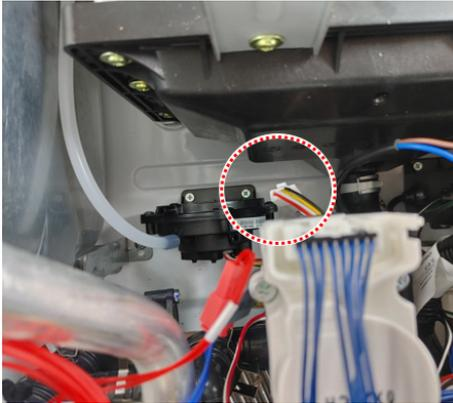

Figure 11
4. Refer to figure11 and remove the air pressure sensor wiring connector.